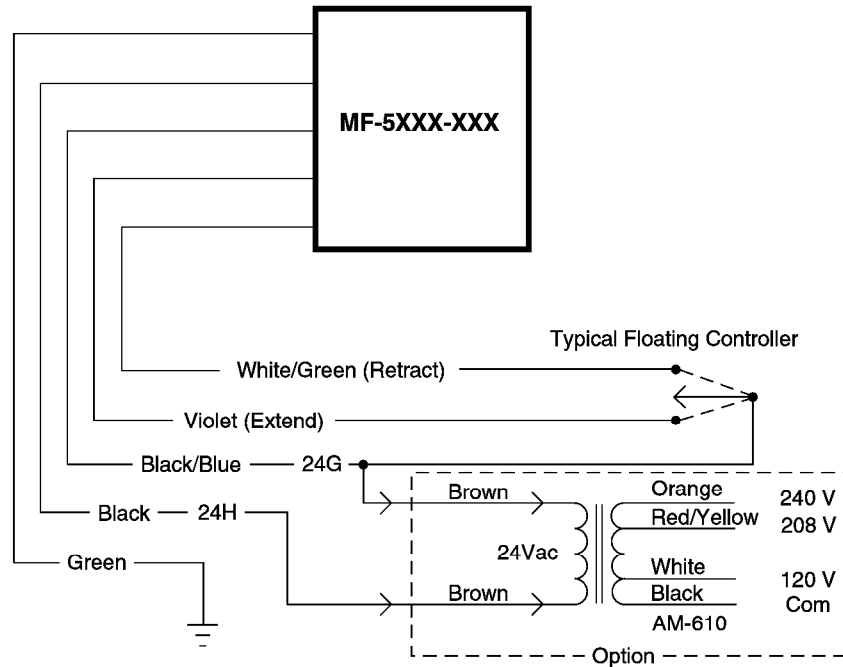
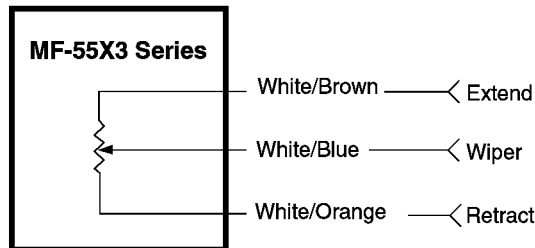
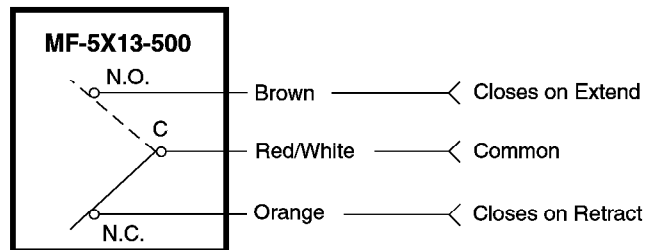

Figure-1 Basic Wiring Diagram.
Figure-2 15K Feedback Potentiometer for MF-55X3 Series Models.
Figure-3 Auxiliary Switch for MF-5X13-500 Models.
SPDT Floating Control Output or 2 SPST Control Contacts, Minimum rating of 1 A @ 24 Vac, inductive load. Refer to Figure-1.
Figure-1 illustrates a typical wiring diagram using an MF-5XXX-XXX and a transformer kit (AM-610). Two single-pole, single-throw contacts can also be used to control the actuator position.
The MF-55X3 series models contain a 15K Ω (15%) position feedback potentiometer (pot) to indicate the actuator's stroke position. Refer to Figure-2.
The auxiliary (aux) switch can be adjusted by turning the aux. switch screw to change the switch action through the stroke of the unit (refer to Figure-3). The factory setting has the N.C. contact made at the retracted position.
3. Make the required connections. Refer to Figure-1 for a wiring diagram of a typical application. Refer to Figure-2 for a wiring diagram of the 15K feedback potentiometer for the MF-55X3 model series actuators. Refer to Figure-3 for a wiring diagram of the auxiliary switch for MF-5X13-500 model actuators.